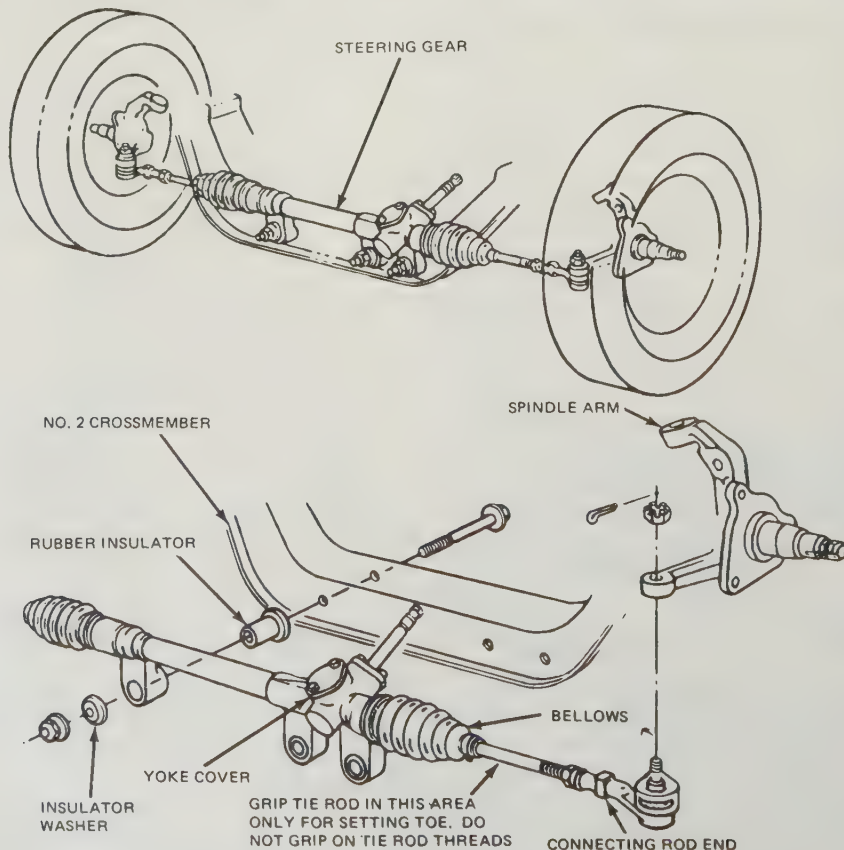

Fig. 11.6. Installation of steering gear (manual) (Sec. 14)
- 7 Support the steering gear and remove the three nuts, washers and long bolts that retain the steering gear to the front crossmember (see Fig. 11.6).